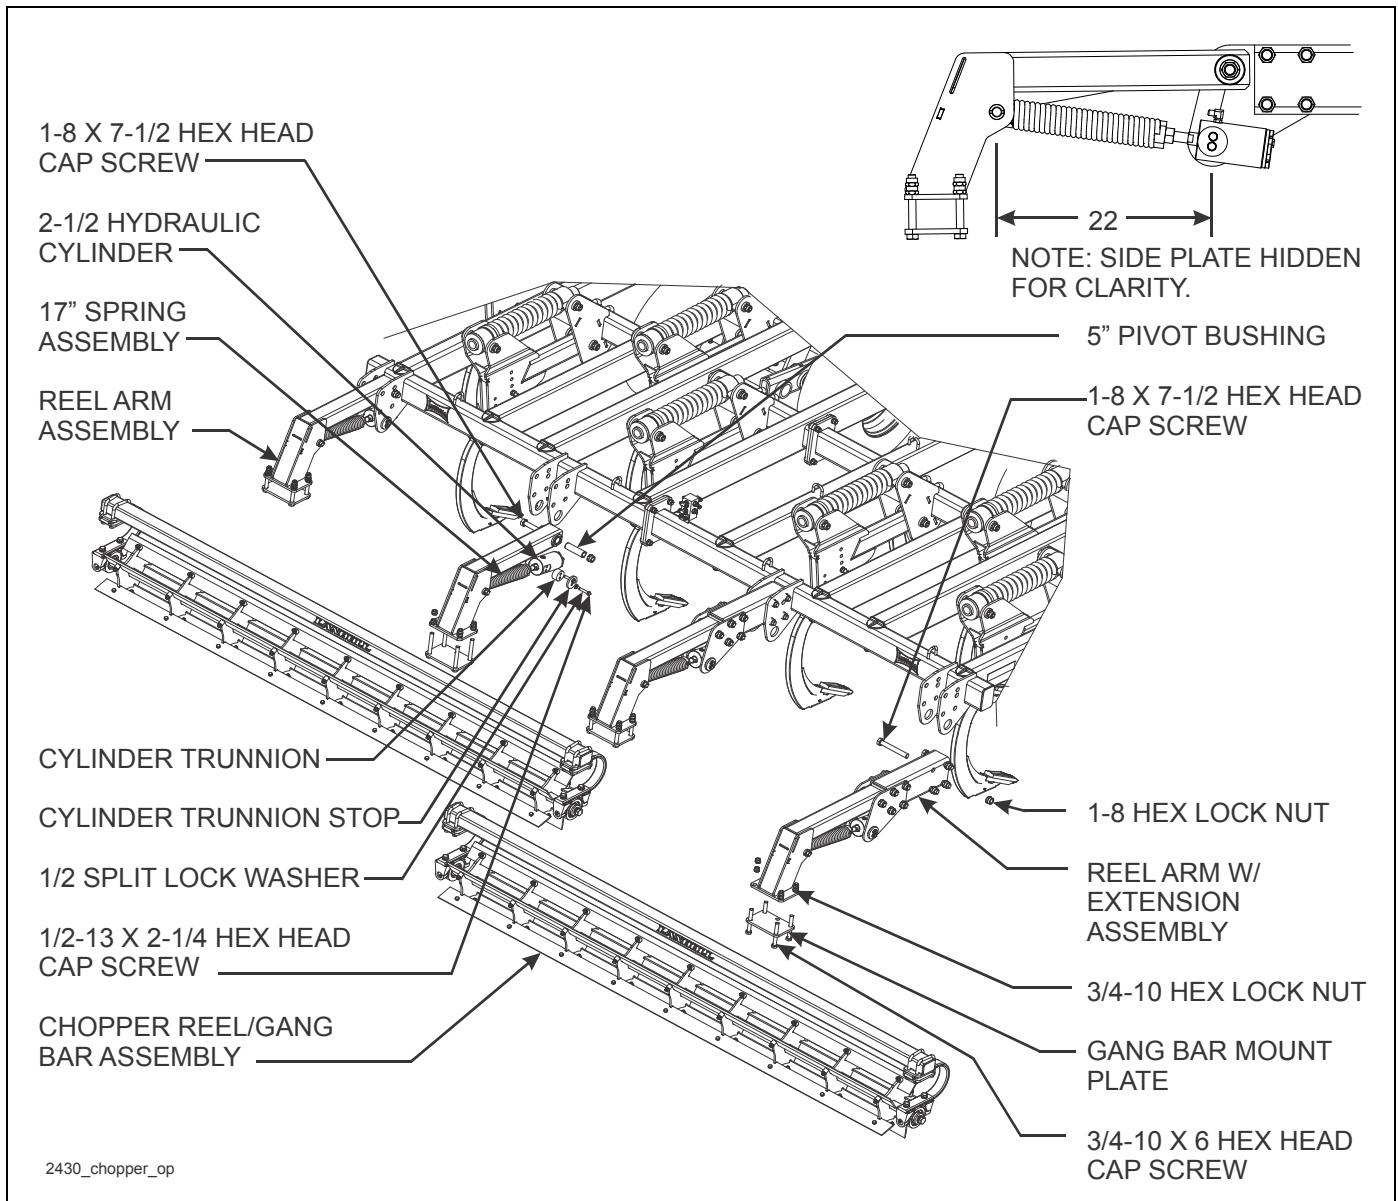

Figure 3-24: Finishing Chopper Reel Installation (Option)
1. Attach reel arm assemblies to rear frame in second hole from top using 1-8 x 7-1/2 hex head cap screw, 5" pivot bushing, and hex lock nut (**See Figure 3-24.**)